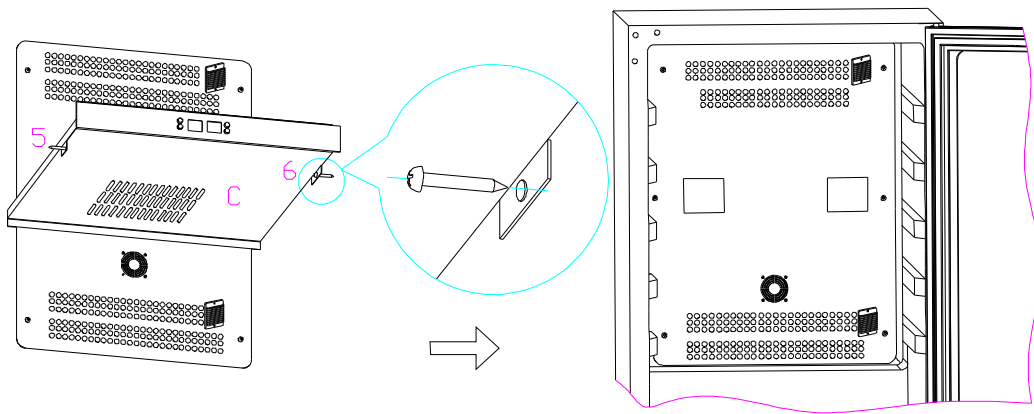

Fig.16
c. Remove the fixing screws (5,6), then pull out electric box (C) to expose the air duct board; (Fig.16)